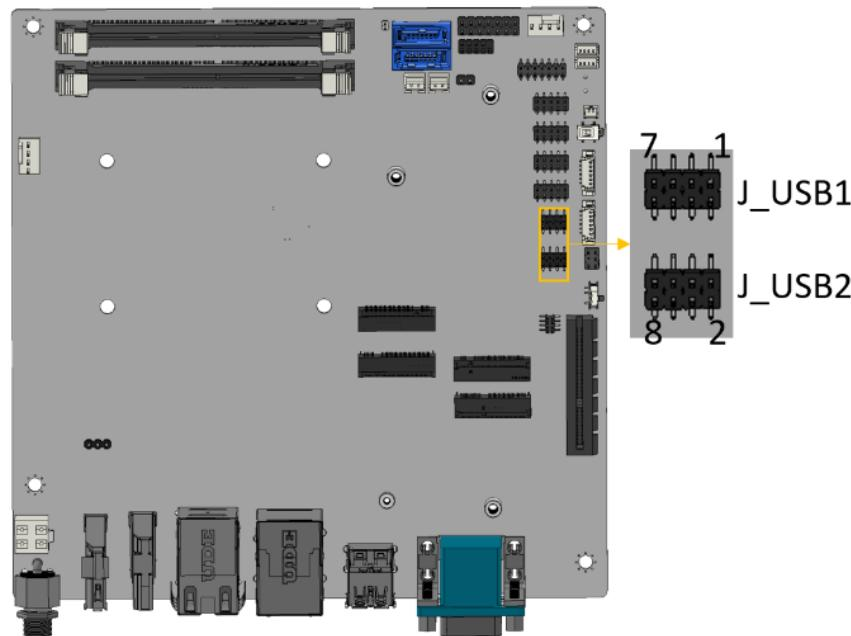

Figure 3-21: Internal USB 2.0 Connectors Locations
- CN Location:** See Figure 3-21